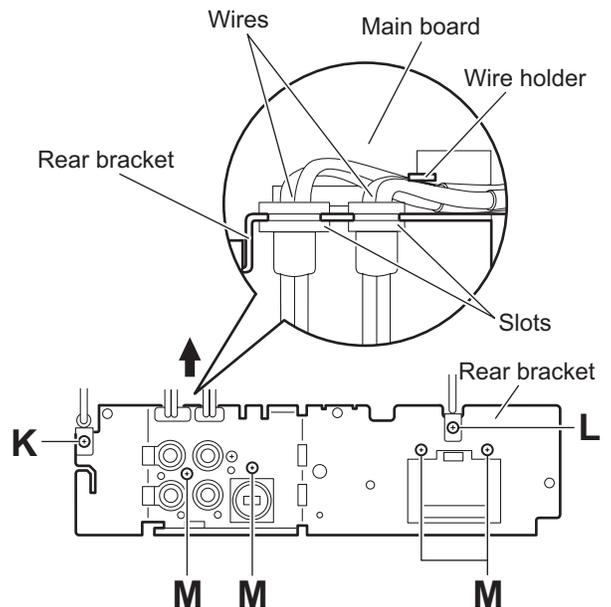

Fig.12
3.1.7 Removing the rear bracket (See Fig.12)
- (4) Release two joints **j** and **k** on the right side of the CD chassis assembly. (See Fig.12.)
- (5) Take out the front unit 2 in an upward direction.
- (6) Remove the double-stick tape fixing the flexible wire and remove the two screws **E** attaching the switch wire. (See Fig.12.)